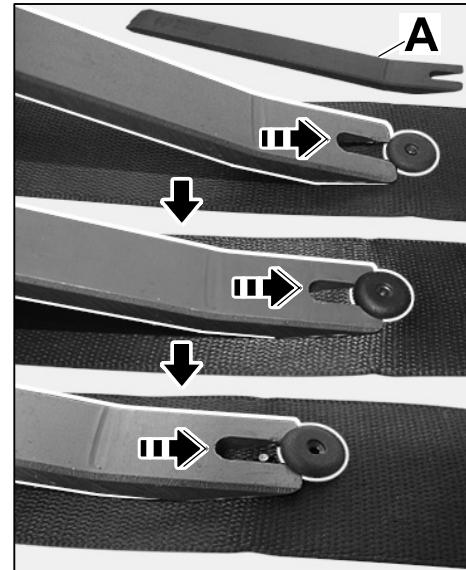

Figure 3
- 6.1 Carefully insert a plastic spatula, e.g. from Wieländer + Schill (article no. 0704  $\Rightarrow$  Figure 3 -A-), between the bottom part of the plastic rivet and the belt strap.
- 6.2 Carefully press plastic spatula along the belt until the bottom part of the plastic rivet springs off upwards ( $\Rightarrow$  Figure 3).